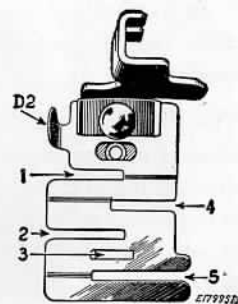

Fig. 54
in Fig. 54, serve as guides for sewing together laces, insertions and embroideries, sewing in position hemmed or folded edges, piping or sewing flat braid to a garment.
The distance from line of stitching to edge of material in slots is regulated by moving lug D2, Fig. 54 to right or left. If lug moves with difficulty, place a drop of oil under blue spring, then wipe it dry.
1. Insert one of the laces in slot 1 of edge-stitcher and the other in slot 4, Fig. 54.
1. Fold edge of material to which lace or ribbon is to be sewn and insert it in slot 1, Fig. 54 of edge-stitcher.
2. Insert piping with its folded edge to left in slot 3 and edge to be piped in slot 4, Fig. 54.
1. Place garment under edge-stitcher and tape in slot 1 or 4, **Fig. 54**.
2. Insert edge in slot 5, **Fig. 54**, and adjust lug **D2** to stitch as close to edge as desired.
1. To make a French seam of uniform width, insert two edges to be joined, wrong sides together, in slot 1 or 2, **Fig. 54**, and stitch close to edge.
- Insert creased folds in slot 1, Fig. 54 and adjust edge-stitcher to right or left for the desired width of tuck. Use a light tension, short stitch and fine thread and needle.